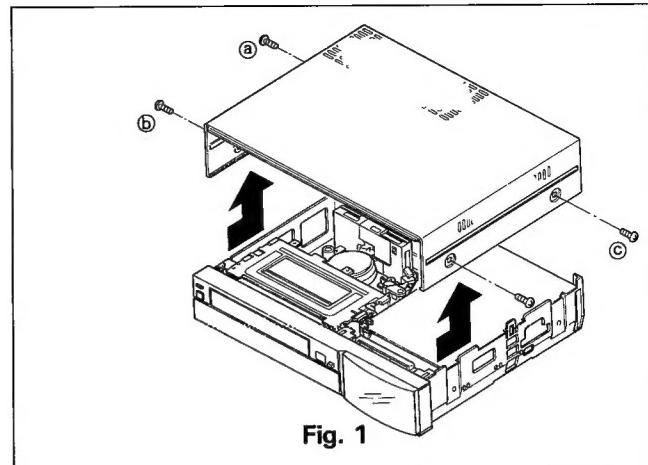

Fig. 1
- A. Remove the four screws (Ⓐ ~ Ⓞ) on each side retaining the top cover as shown in Fig. 1.